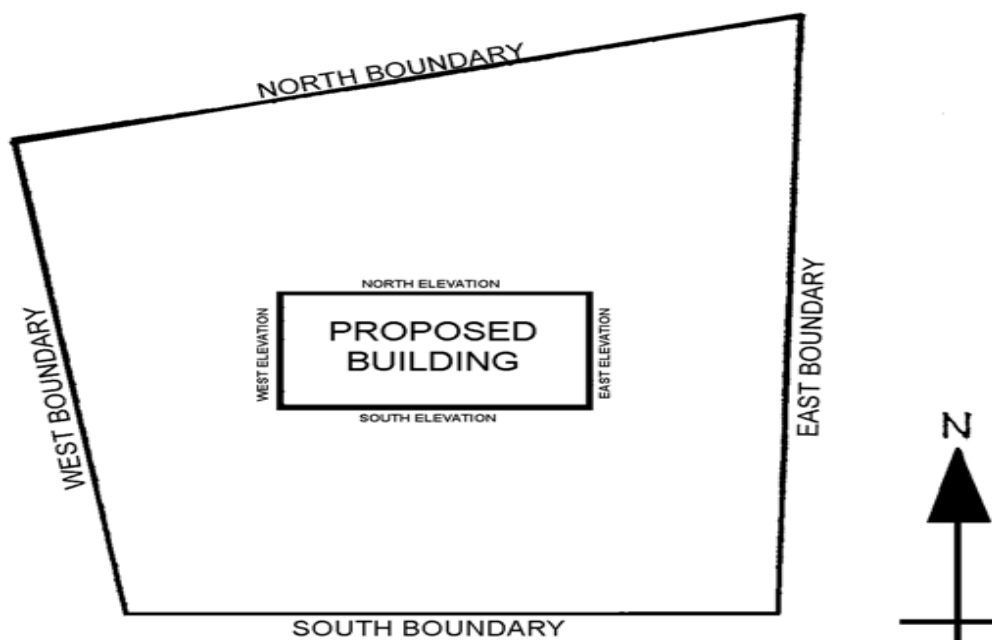
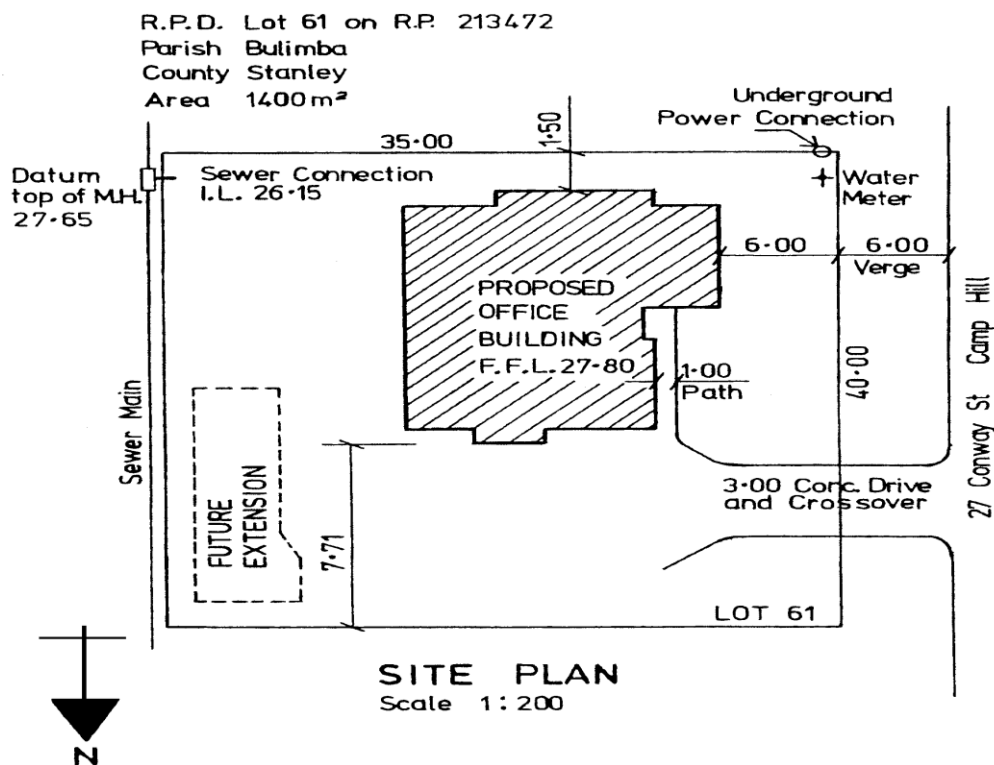

Figure 2.1 - A Simple Plan Showing Orientation Only
Figure 2.2 - Site Plan
The North point is always shown on the site plan to show the orientation of the site and the building/s. Site plans are usually drawn to a scale of 1:200 with dimensions given in metres to two (2) decimal places. Refer to Figures 2.2 and Figure 2.3, and study the site plan and the information it conveys. Figure 2.1 is a simple site plan used for orientation purposes only. The North point is indicated and from this you can determine the North, South, East and West boundaries likewise the North, South, East and West sides of the building. Example 1
With reference to Figure 2.2 you will notice that it not only shows the distance the proposed office building is from the boundary lines but also the sewer main, sewer connection, underground power connection and the access drive to the adjacent street.